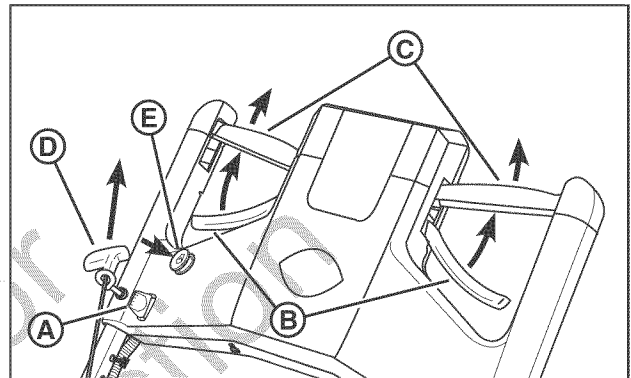

Figure 3: Starting the mower
1. Plug the starter insert (**A, Figure 3, 7800830**) into the connection slot in the control console.